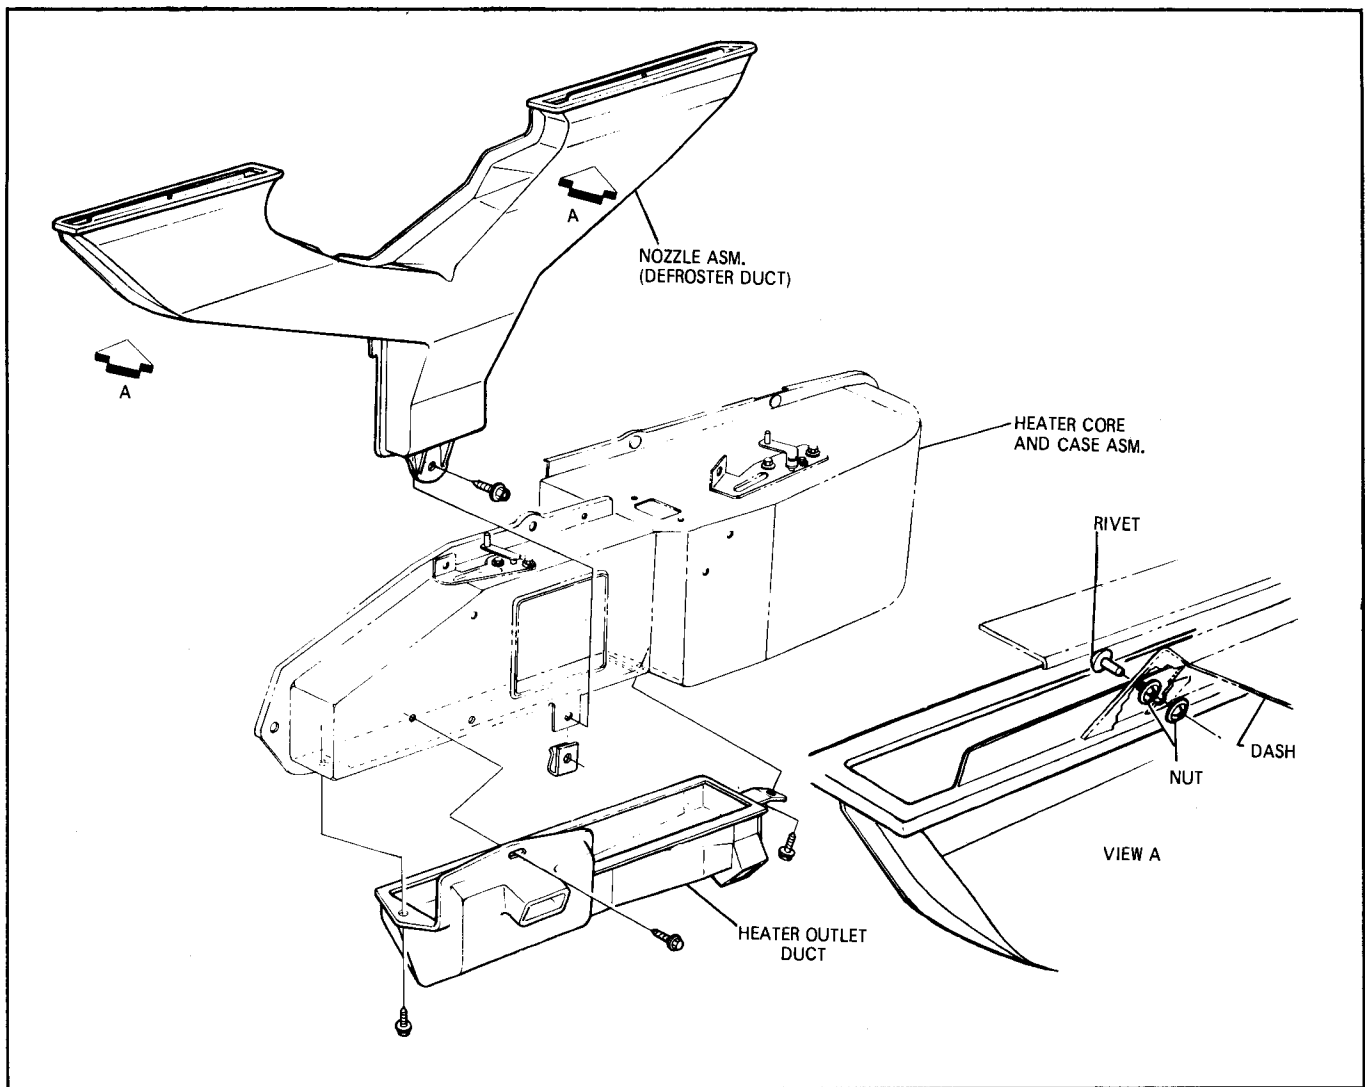

Fig. 1-23 F Series Heater Duct Installation
7. Remove duct retaining nut at each defroster outlet and remove duct through bottom of instrument panel (Fig. 1-23).
11. Remove (2) lower I.P. bolts at extreme corners of I.P. and remove console to I.P. bolts (if applicable).
12. Remove (3) upper I.P. screws at cluster and (3) nuts from I.P. pad studs above glove box opening.
14. Remove duct retaining nut at each defroster outlet (Fig. 1-23) and remove duct from top of instrument panel.